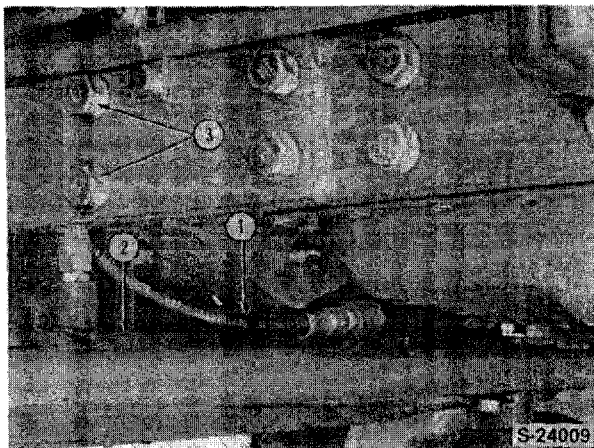

Figure 1
1. Disconnect the power steering cylinder hoses and cap all openings, Figure 1.
4. Remove the axle pivot rear support retaining bolts (3), Figure 1.